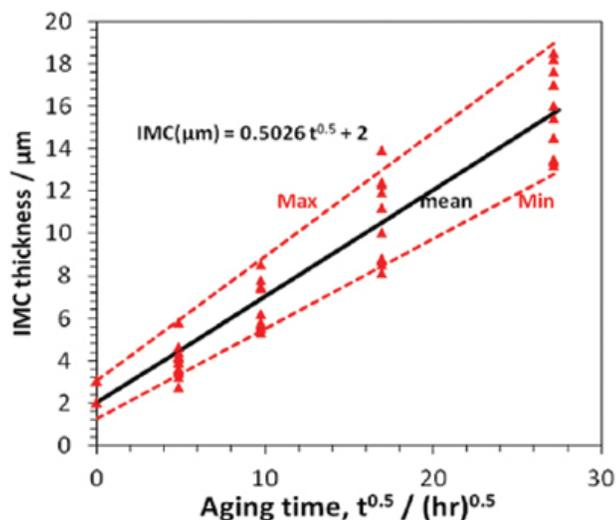

FIGURE 4. IMC growth kinetics at 150°C.
2. All IMC growth rates were within a predictable range. They varied linearly with the square root of time ($t^{0.5}$), and all alloys tested fell within the max and min curves shown in **FIGURE 4**.